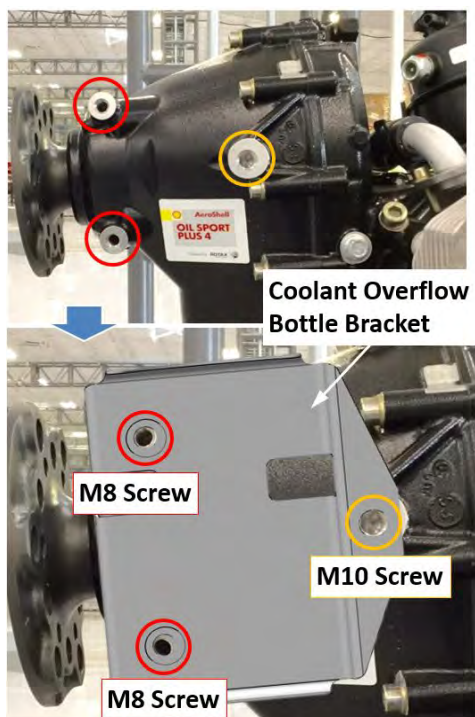

FIGURE 17-37
4. Install the coolant overflow bottle bracket on the engine as shown in Figure 17-37. using the noted hardware. Apply LOCTITE® 243™ to the screw threads.